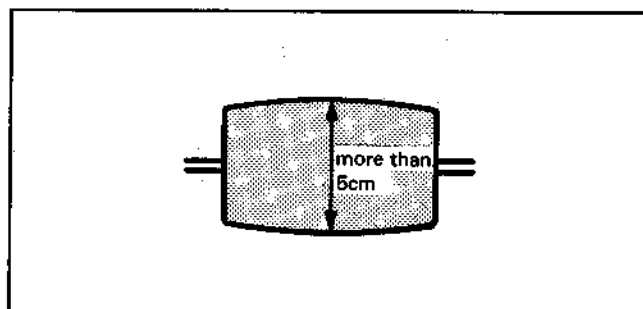

Fig. 1-4 Center Click Waveform
- 6) Return the tracking control knob to center click and confirm that the RF output waveform is more than 5cm. (Fig. 1-4) When it is less than 5cm, refer to the section on CTL position adjustment and perform coarse adjustment.